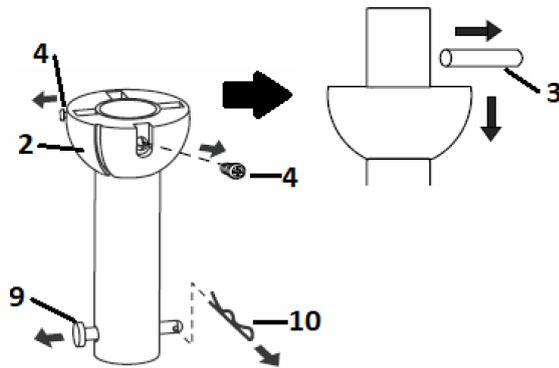

Fig. 6.1
1. Remove the ball joint (2) and dowel pin (3) by loosening the set screws (4) from the down rod (6). Remove the hitch pin (9) by removing the lock clip (10) (**Fig. 6.1**).